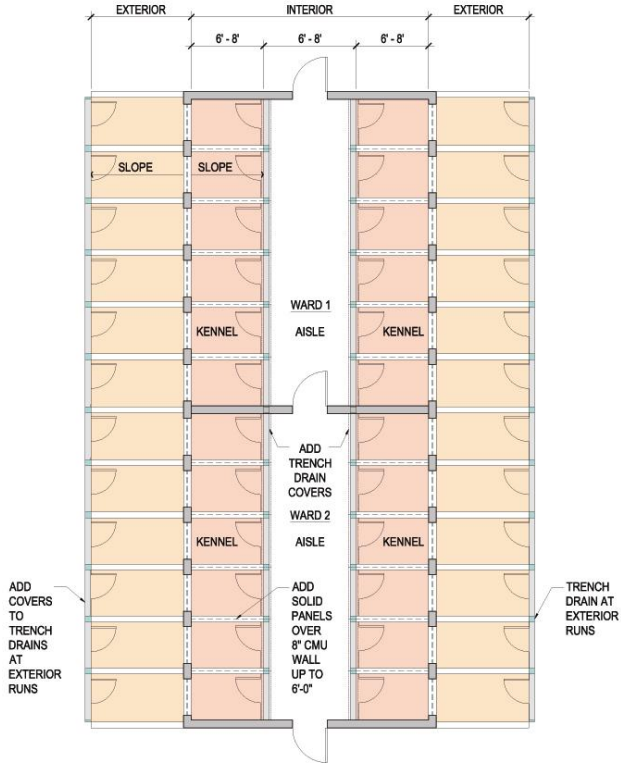

Figure 5-Divide Into Smaller Wards
A.8) Compartmentalization – Generically, these older kennels place far too many dogs in one space. Typically in our new facilities we place only 6 to 8 dogs per ward which is beneficial for both disease transfer and lowering the acoustical stress levels of all involved. Figs. 5 and 7 illustrate one way to help mitigate this problem in these older style kennels.